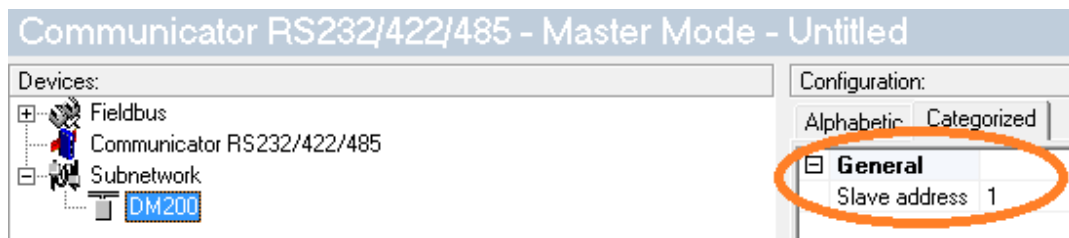

Figure 12 - add node
- 1- Right click on the **Sub-Network**, select **Add node**, name the node with the Hostname of the reader. We will name it DM200. Set the slave address to 1, see figure 12.